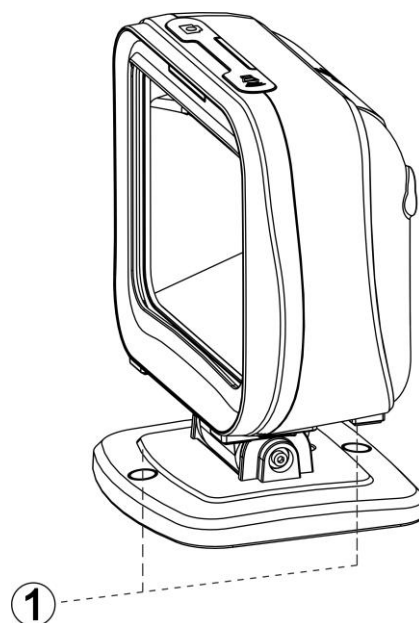

Figure 10-4
4. As shown in Figure 10-4, if you want to fix the stand on a table or other platform, you can remove two plastic stopper on the stand (see ①), then fix the stand with a table with appropriate screws.